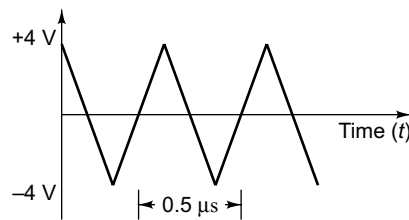

Fig. 4.26 Plot of Ex. 4.11
4.11 The output voltage of an operational amplifier is shown in Fig. 4.26 When input voltage is triangular wave 8 V peak-to-peak amplitude with frequency 2 MHz. What is the slew rate of operational amplifier?